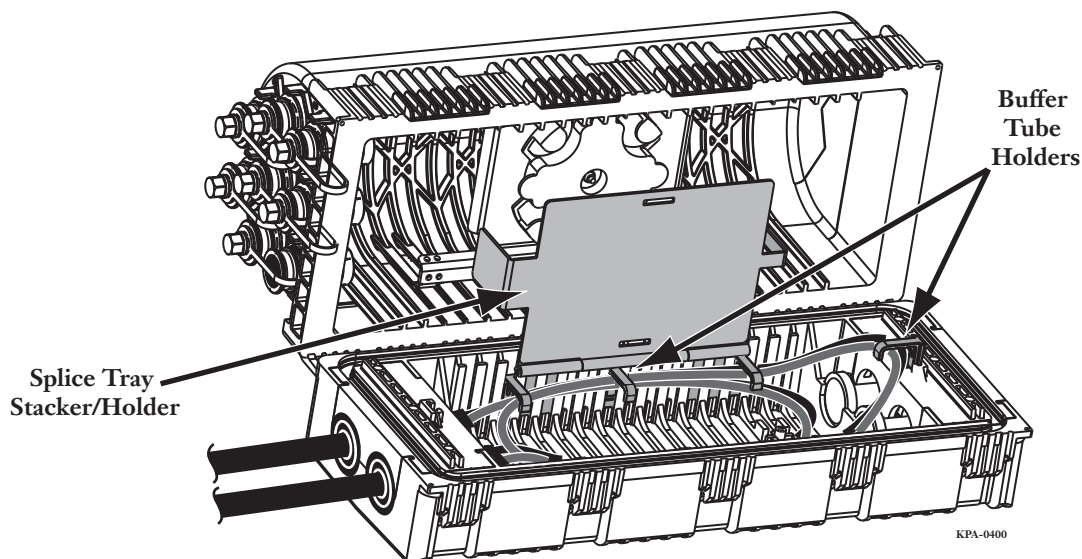

Figure 20
- Step 1:** Slide the buffer tube holders into the terminal as shown in Figure 20. The holders can be installed into the slots inside the terminal or into either of the sealing wedges as needed.